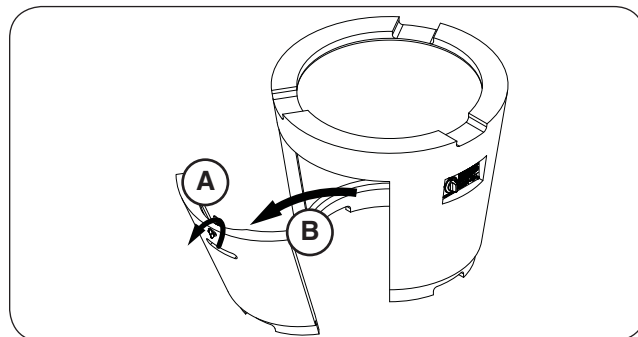

Fig. 22-2 Remove door (if applicable)
2. If equipped, remove the storage door by first turning the door handle counter-clockwise, then carefully pulling the door outward (see Fig. 22-2). Store in a safe location.